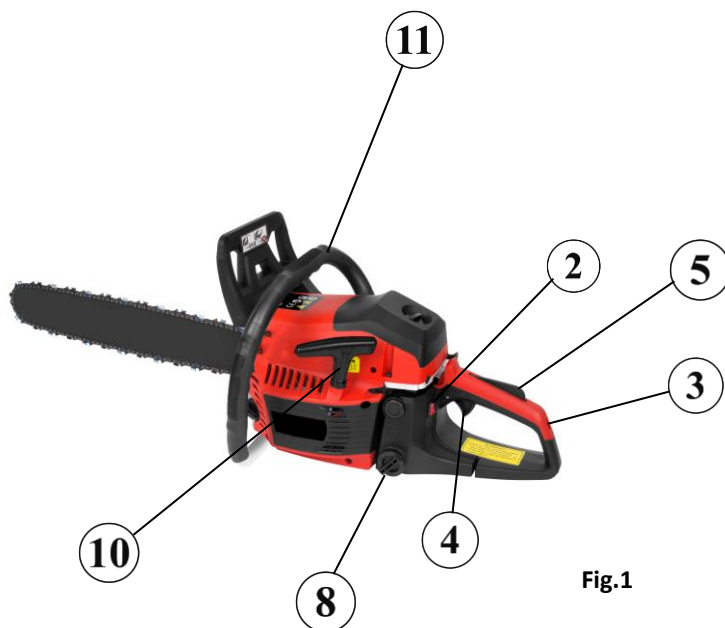

Fig.1
- Holding the front of the bar raised, adjust the chain tension by turning the chain tensioner (Fig. 1-⑪) until the entire chain is adhered to the bar.